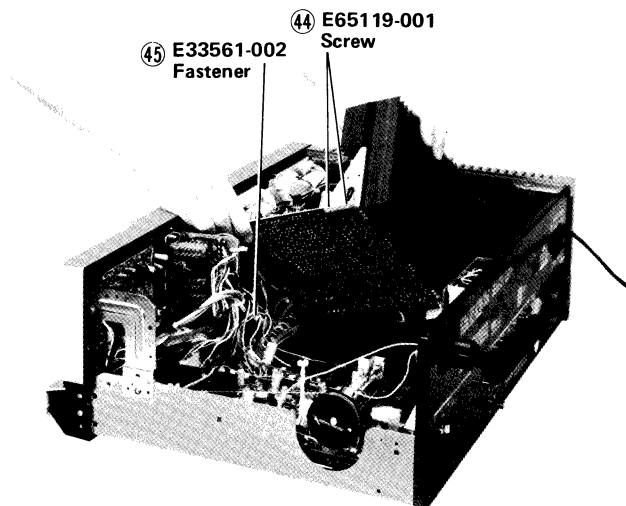

Fig. 8
4. Remove TXX-112 with the heat sink and place it carefully as shown in Fig. 8.